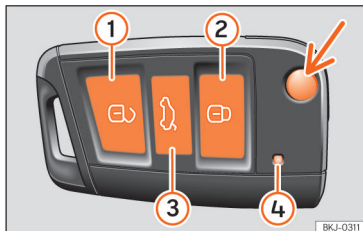

Fig. 46 Vehicle key
To fold and unfold the key blade, press the button »» Fig. 46 (arrow).
When a button is pressed briefly on the vehicle key, the control lamp (④) »» Fig. 46 flashes once briefly, but if pressed for a long period of time, it will flash several times, for example, in the convenience opening.